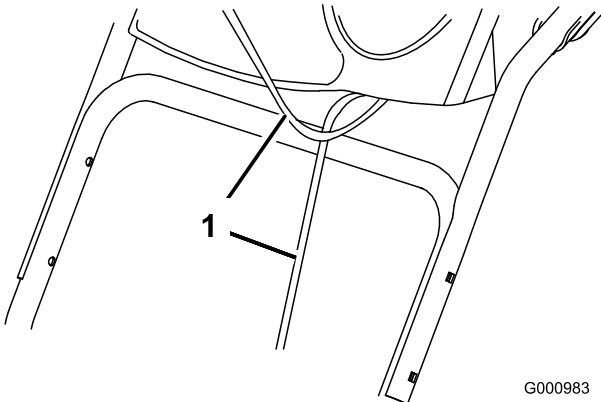

Figure 3
1. Lift and rotate the upper handle and position it over the lower handle (Figure 3).